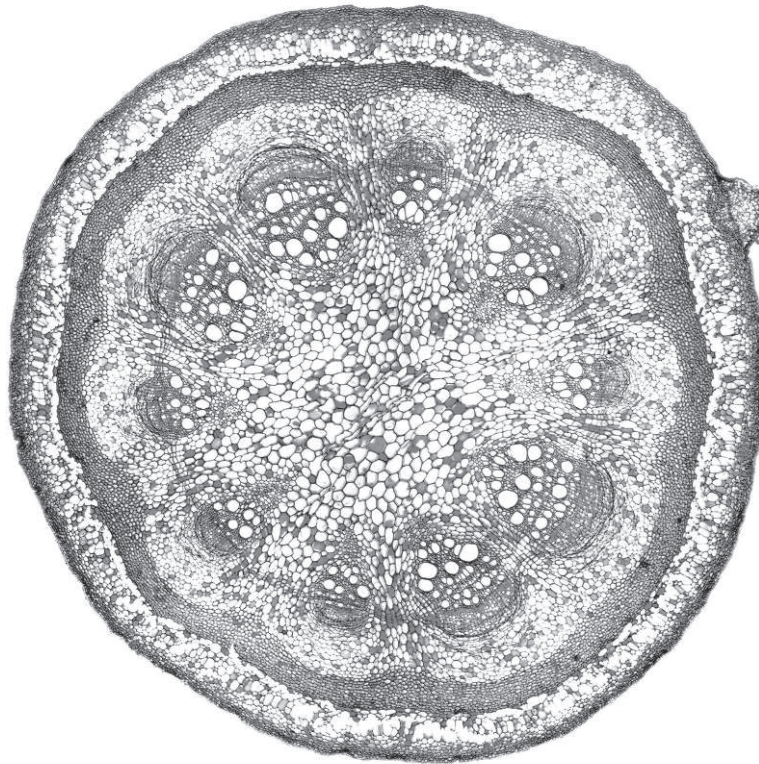
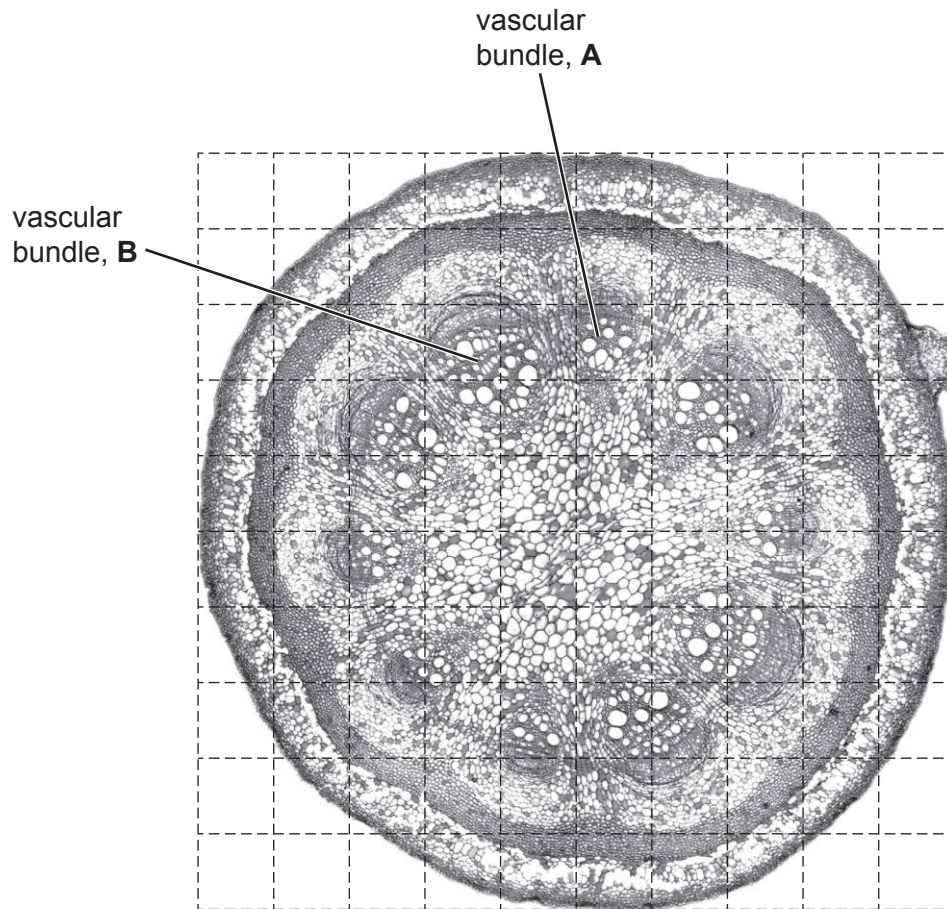

Fig. 2.1
Fig. 2.2
- (b) Fig. 2.1 is a photomicrograph of a stained transverse section through a stem of a different type of plant.
Identify the observable **differences** between the section on **M1** and the section shown in Fig. 2.1.
(c) Fig. 2.2 is a photomicrograph of the same plant stem section that is in Fig. 2.1.
You will need to use the grid to find the area of the vascular bundle labelled **A** and the area of the vascular bundle labelled **B** in Fig. 2.2.
(ii) Use the grid to estimate the area of the vascular bundle labelled **A** and the area of the vascular bundle labelled **B** in Fig. 2.2.